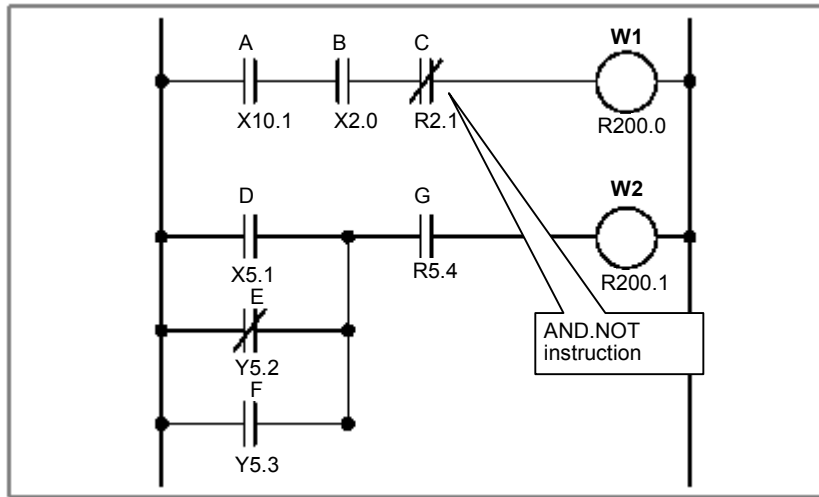

Fig. 4.1.7
- (1) This instruction reverses the status of the signal at the specified address and produces a logical product.
- (2) For examples of how the AND.NOT instruction is used, see Fig. 4.1.7 and Table 4.1.7.